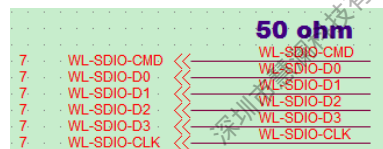

Figure 2-36 The Trace Impedance Requirement of SDIO Signal
- Mark the trace impedance requirement of the WiFi SDIO signal in the schematic diagram to facilitate PCB layout design. As shown in Figure 2-36.